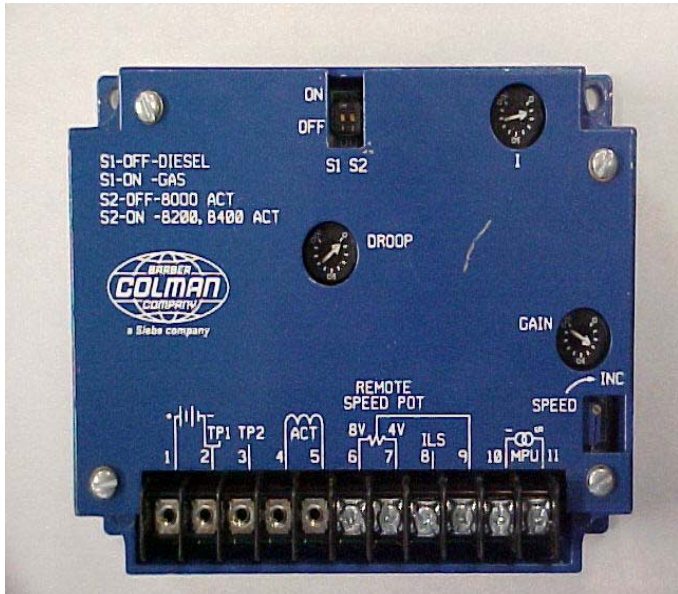

Figure 1
3. With the unit running at operation speed, locate the Barber Colman Electronic Governor Controller as pictured in Figure 1.